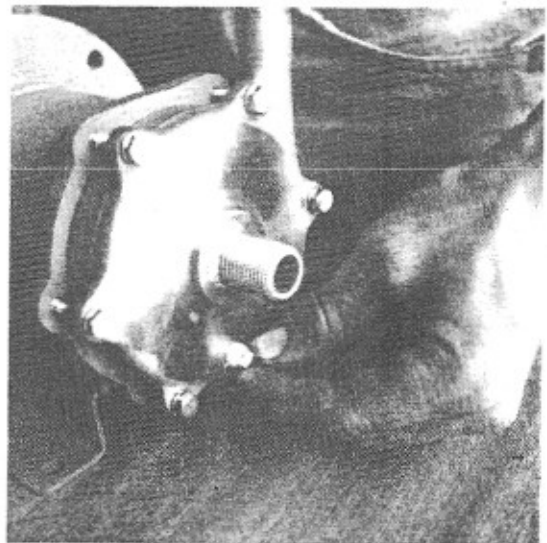

Figure 22
- A. Remove the casing drain plug (Part. No. 67) [Fig. 22] and empty the pump of any remaining liquid.